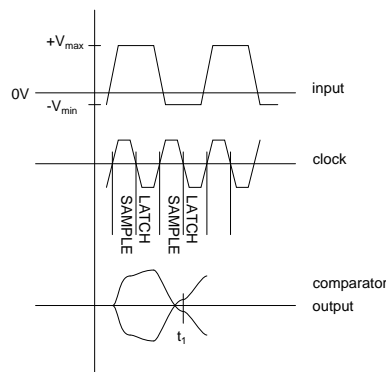

Figure 2: Comparator specifications
- Design the comparators for the worst case input waveform (Fig. 2. i.e. The preamplifier-comparator combination should recover from a large input to correctly detect the sign of a small input of the opposite sign.
- Transient simulation of a preamplifier followed by a latch with the input alternating between (See Fig. 2)